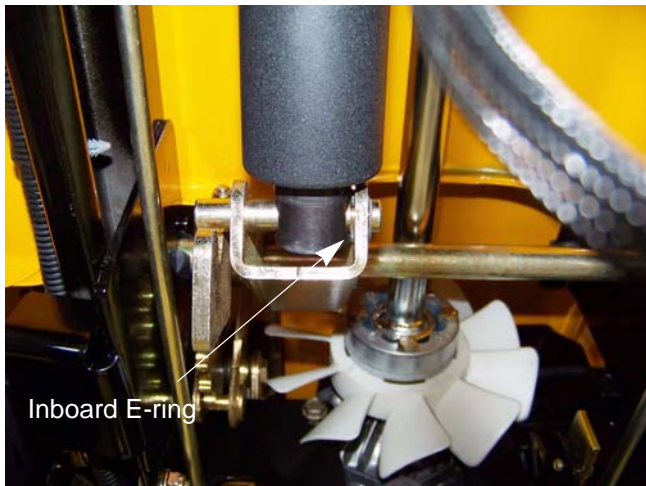

Figure 8.49
- 8a. Remove the inboard E-ring from the pin that connects the lift actuator to the lift shaft connecting arm. See Figure 8.49.